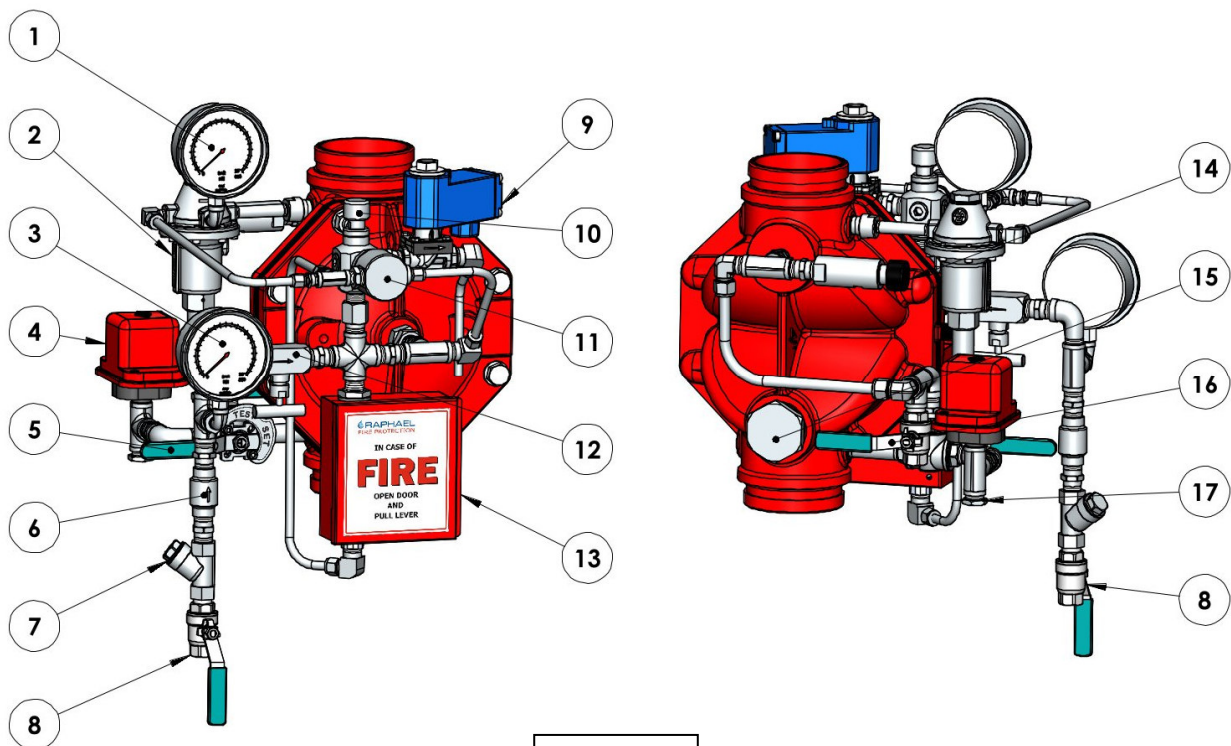

Figure 1
Operation (reference - figure 1)
Parts list (reference figure1)
9. All connections to water supply, alarms etc. should be done in accordance with figure 1:
4. Push the MADV (MB) (**14 figure 1**) and make sure that after emptying condensing water, the drain flow/dripping stops. If a constant leakage is observed, it might indicate a deluge valve sealing problem.